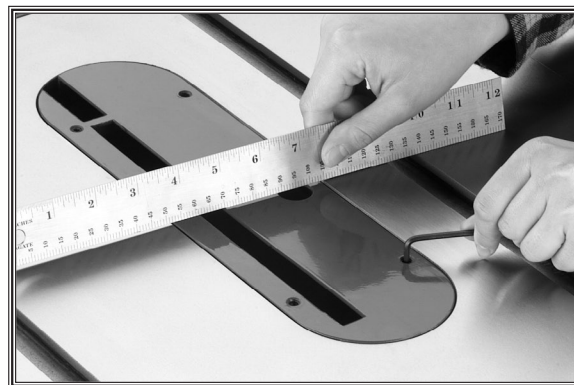

Figure 31. Adjusting table insert flush with table top.
20. Place the table insert into the table opening, and using a straightedge as a guide, adjust the table insert set screws (**Figure 31**) until the table insert is flush with the table top.